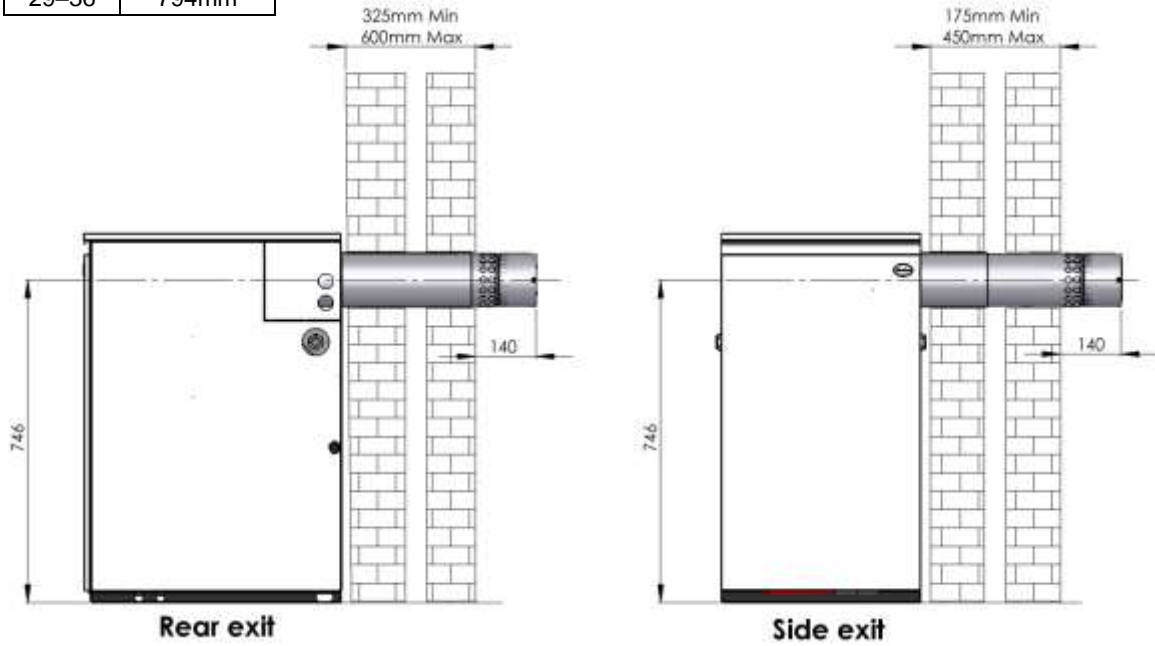

FIG. 17
- Having decided the position of the boiler, mark out the position of the terminal and cut a circular hole 130mm diameter in the wall (see **figs 17–18**).